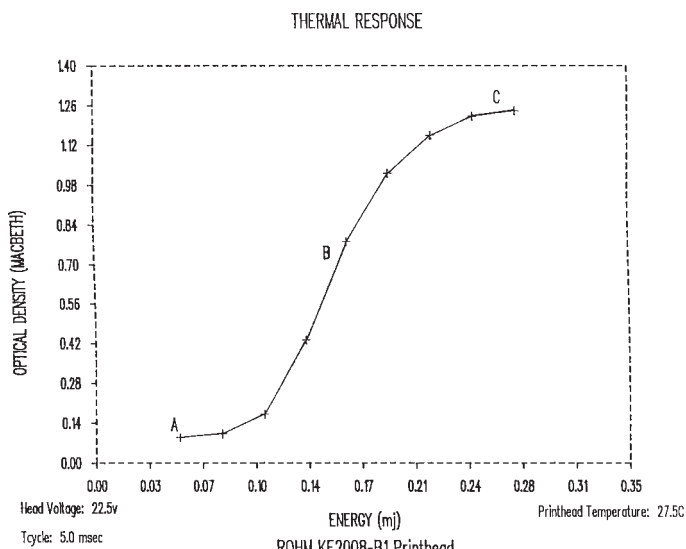

FIG. 18 Thermal Response
14.1 *Data Plot*—The data plot will be in the form of the “S” curve shown in Fig. 18.
14.1.1 The bottom portion of the plot (A in Fig. 18) shows background measurement in the densitometer readings were taken to the extreme lowest energy levels where no visible image was formed. Generally, whiter surfaces have lower background readings.
14.1.2 The top portion of the plot (C in Fig. 18) indicates the maximum density capability of the thermal product.
14.1.3 The steep sloped portion of the plot (B in Fig. 18) indicates how the thermal image transfers at a given energy level.
15.1.1 *Plot Utility*—If the program package includes Tech\*Graph\*Pad or similar software, invoke the program and prepare the data plot. An example is shown in Fig. 18.